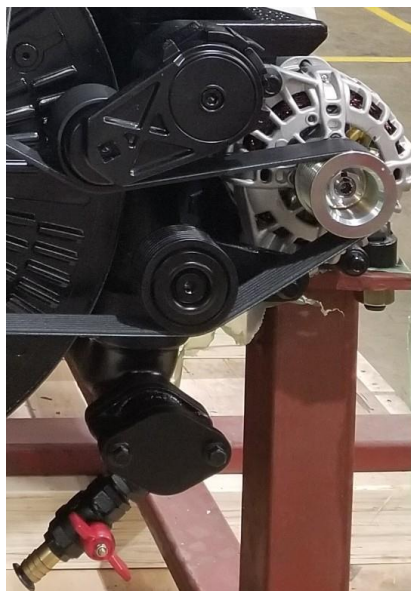

Figure 29
- d) Insert a ½" drive ratchet or breaker bar into the square hole on the automatic belt tensioner on the left side of the engine. Pull the ratchet (see Figure 29) to take the tension off the alternator belt and remove the belt (as shown).